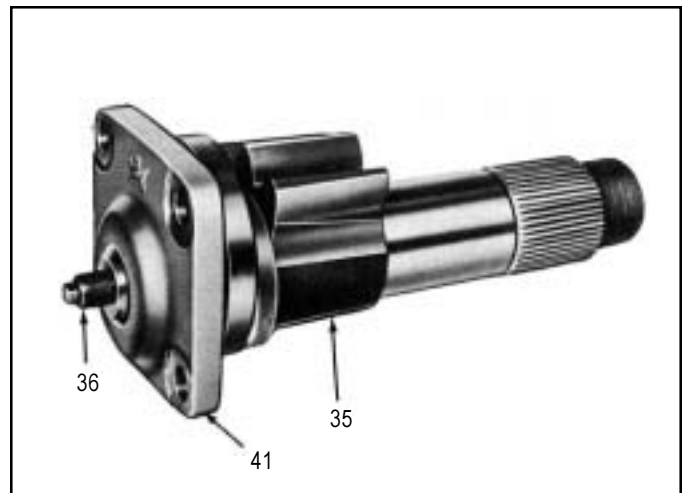

FIGURE 46
10. Install the side cover(41) onto the output shaft(35). Turn the adjusting screw(36) counterclockwise with a 9mm socket until finger tight, then back off an eighth of a turn. (See Figure 46)